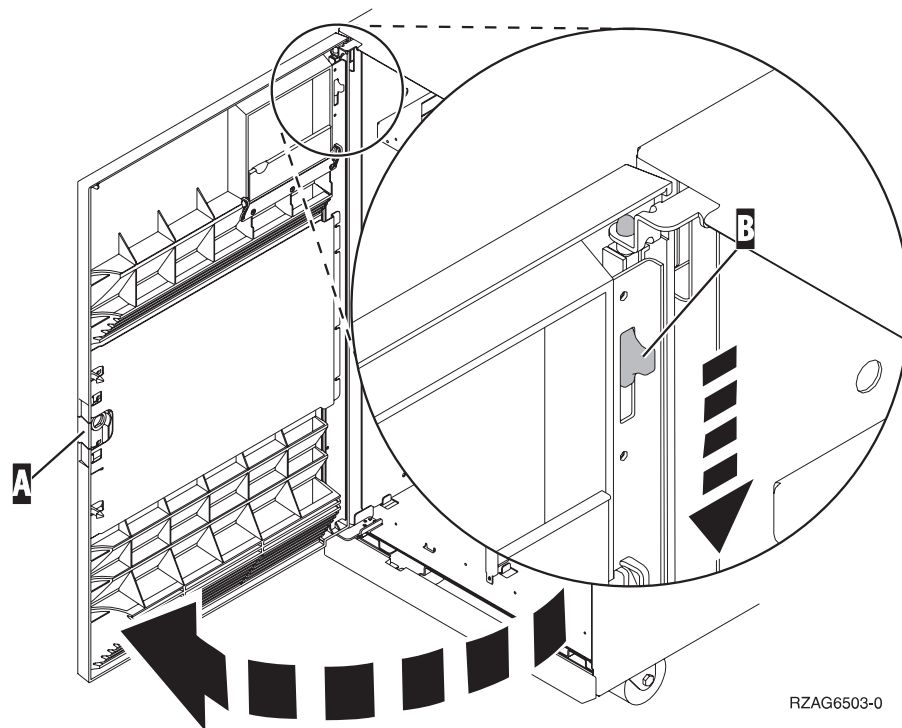

Figure 42. Opening the front cover door
- 7. Refer to Figure 42 and use latch that is shown at **A** to open the front cover.